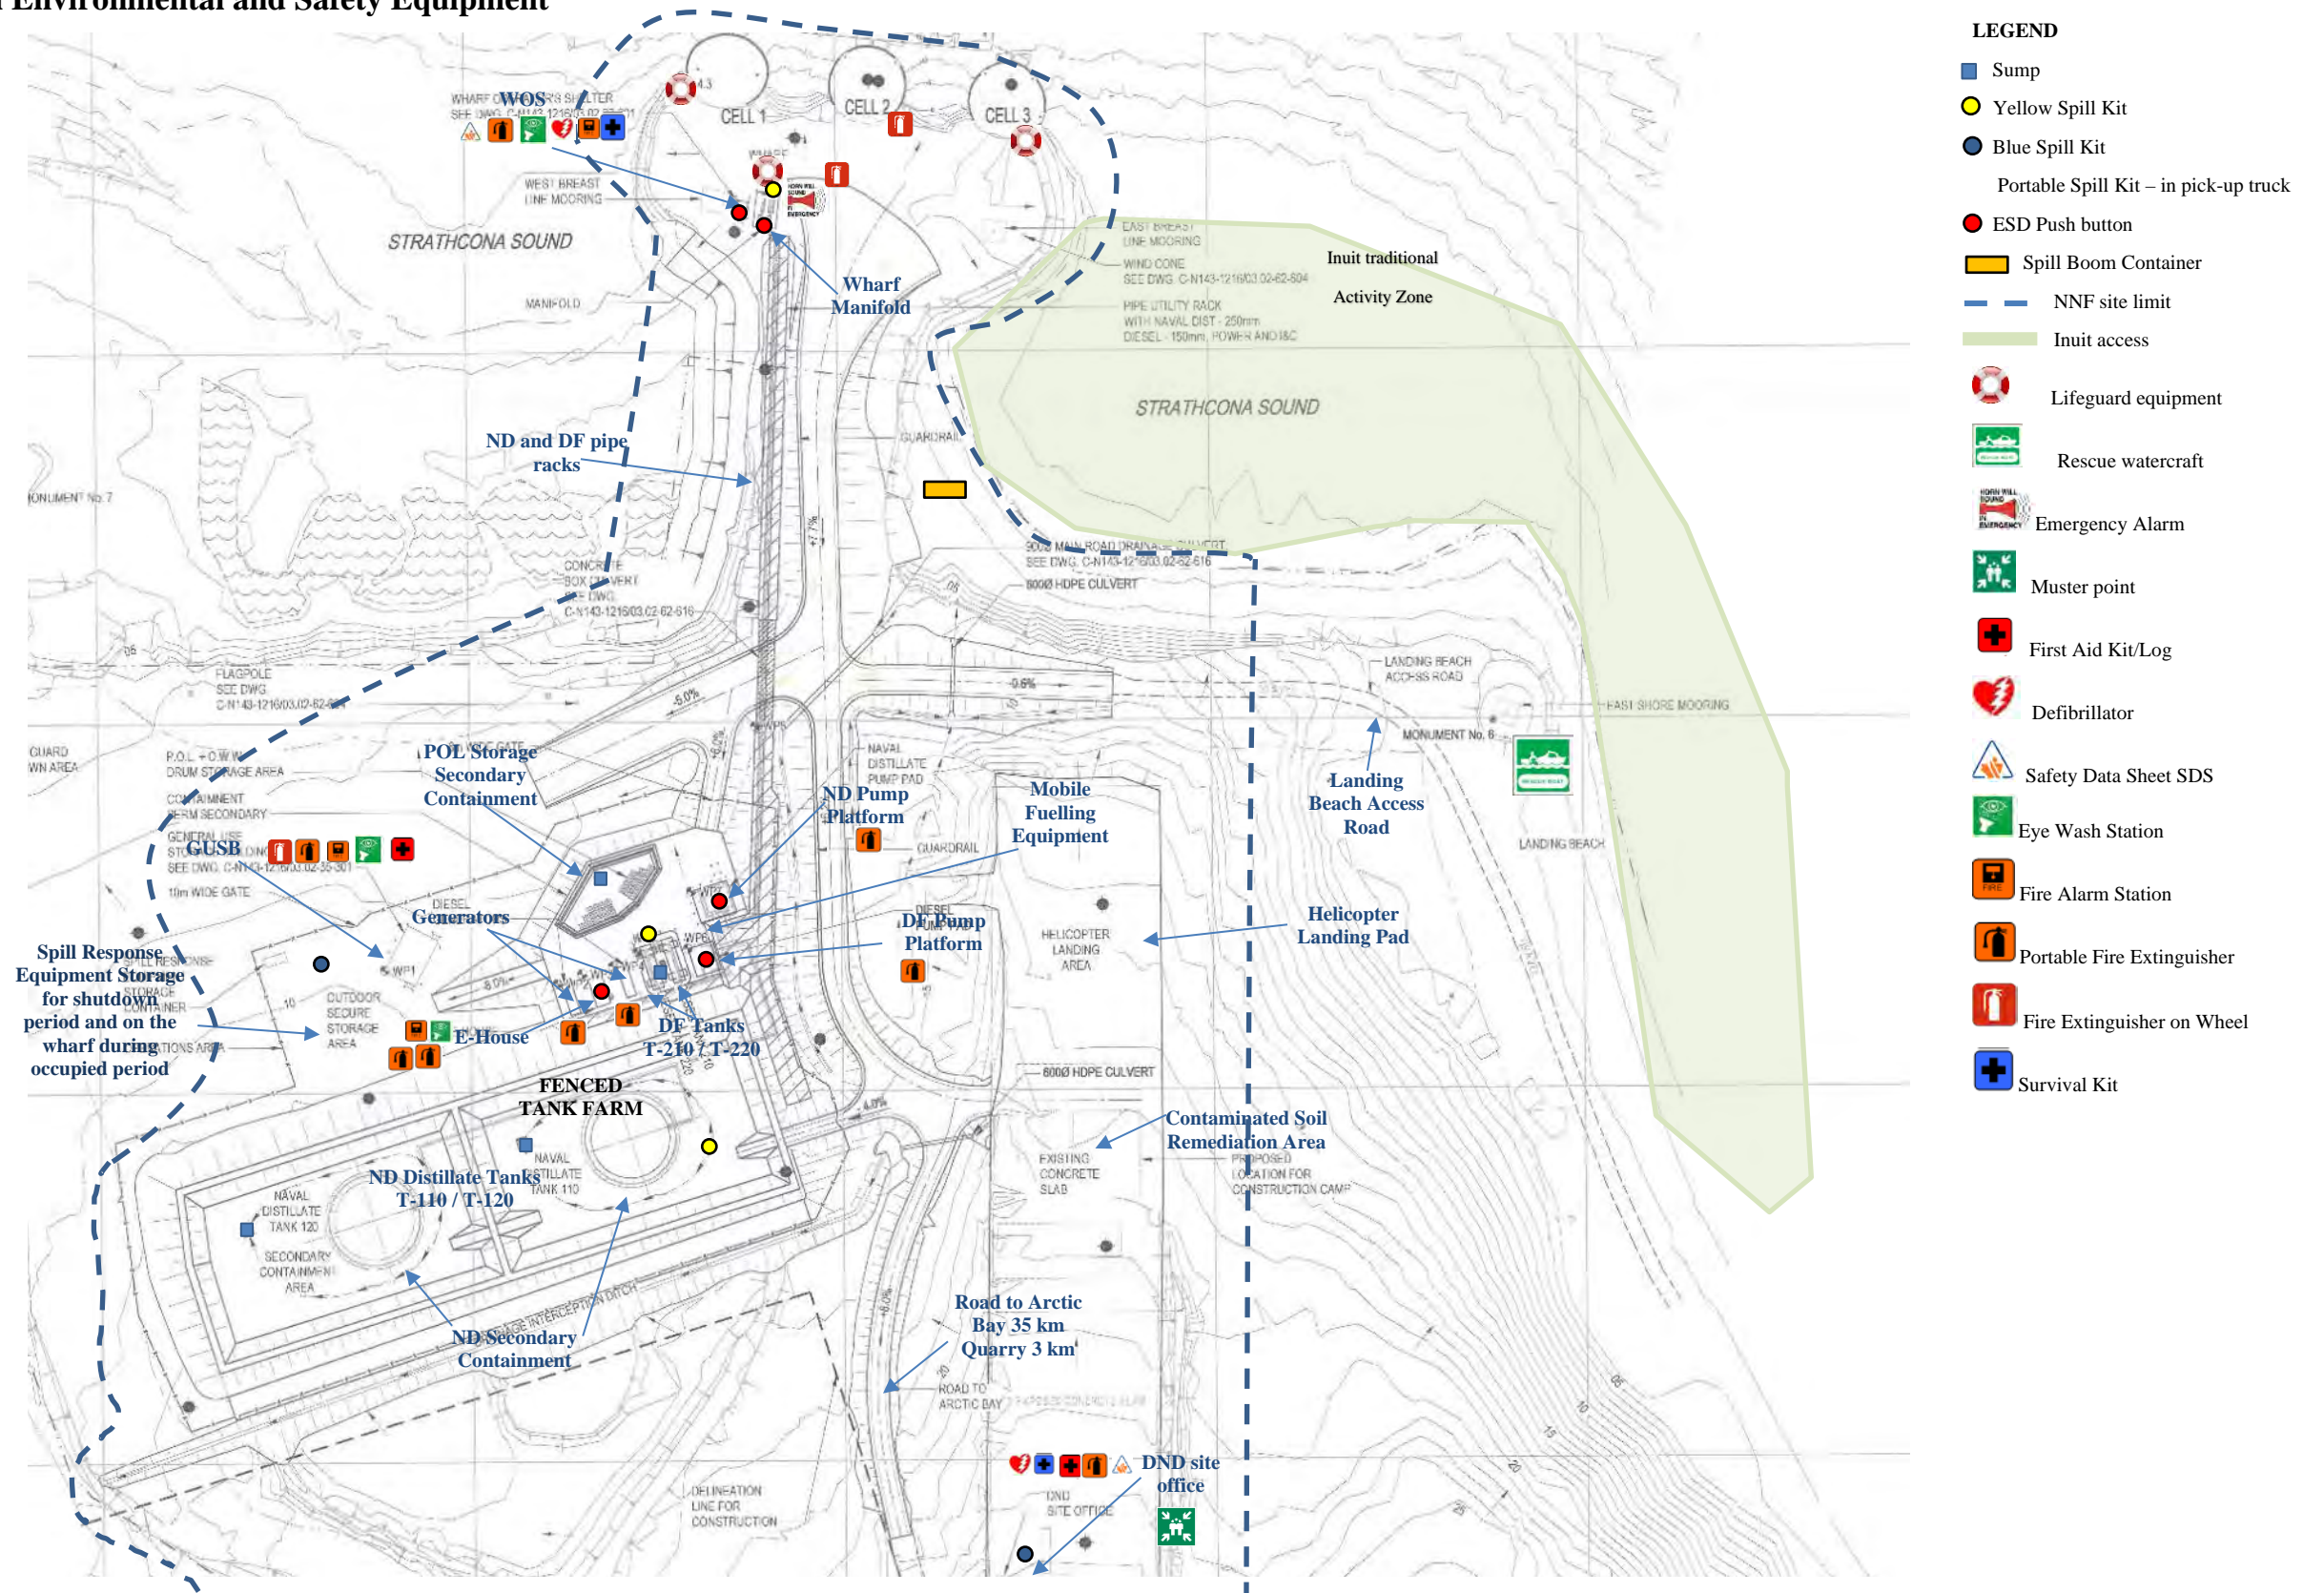

Figure 5: NNF Site Layout including environmental and safety equipment
- Figure 5 shows the NNF Site Layout including environmental and safety equipment.
- The site must have the required environment and safety equipment (refer to Figure 5, sections 4.1.2.1 and 5.2.1.2)
The location of ESD pushbutton is shown on Figure 5.
During the unoccupied period, the Spill Containment Kits are in the outside storage area. The Wharf Containment Kit is stored in the outdoor secured area. (Refer to Figure 5 for the site Layout).